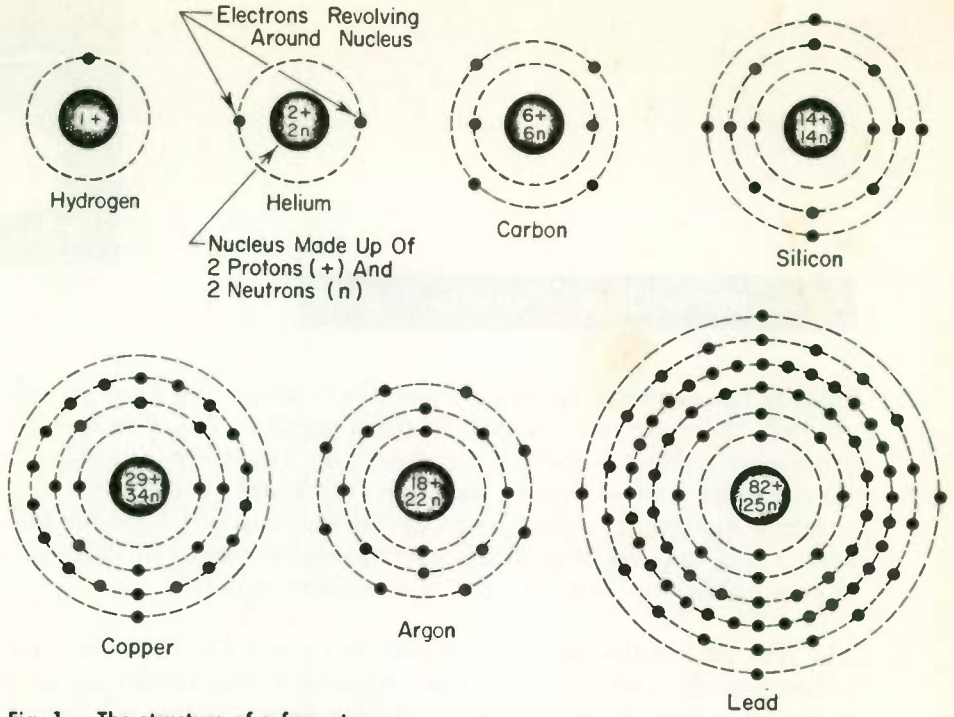

Fig. 1 The structure of a few atoms.
1 THE PARTS OF THE ATOM . . . The atoms of several different elements are shown in Fig. 1. Every atom has a relatively heavy core, called the nucleus, made up of protons and neutrons. Electrons revolve around the nucleus, like the planets around the sun.
Figure 1 shows that an atom of helium has (1) _____ protons, (2) _____ neutrons, and (3) _____ electrons. An atom of carbon has (4) _____ protons, (5) _____ neutrons, and (6) _____ electrons. An atom of copper has (7) _____ protons, (8) _____ neutrons, and (9) _____ electrons. An atom of hydrogen (the simplest atom) has (10) _____ protons, (11) _____ neutrons, and (12) _____ electrons.
(1) 2; (2) 2; (3) 2; (4) 6; (5) 6; (6) 6; (7) 29; (8) 34; (9) 29;
(10) 1; (11) 0; (12) 1;
2 CHARGED BODIES . . . A body that neither attracts nor repels another body is said to be neutrally charged (or uncharged). A body is neutrally charged when the number of protons in the body is ⁽²²⁾ _____ to the number of electrons. A body that has more protons than electrons is ⁽²³⁾ _____ charged, and a body that has more electrons than protons is ⁽²⁴⁾ _____ charged. The number of protons in the carbon atom of Fig. 1 is ⁽²⁵⁾ _____, and the number of electrons revolving around the nucleus is ⁽²⁶⁾ _____. Therefore the carbon atom is ⁽²⁷⁾ _____ charged. If the carbon atom were to lose one or more of its electrons, it would be ⁽²⁸⁾ _____ charged.
(13) negative; (14) attract; (15) repel; (16) negatively; (17) attract;
(18) 1,000,000; (19) one; (20) repel; (21) attract; (22) equal; (23) positively;
(24) negatively; (25) 6; (26) 6; (27) neutrally; (28) positively;
All the atoms shown in Fig. 1 have the same number of electrons as protons, and are therefore without a charge (neutrally charged). It is the normal condition for all atoms to have the same number of electrons as protons. Therefore all atoms are normally (29) _____ charged.
3 SOME PROPERTIES OF AN ATOM . . . Figure 1 shows that the revolving electrons exist in a number of orbits, called rings or shells. The electrons of the silicon atom are in three shells. The shell closest to the nucleus of a silicon atom holds (34) _____ electrons. The next one further out has (35) _____ electrons, and the outside orbit has (36) _____ electrons.
There is a maximum number of electrons that can exist in a shell. The number of electrons in the first, or K, shell (the one nearest the nucleus) cannot exceed two. The second, or L, shell can have a maximum of eight electrons, the third (M) shell a maximum of 18, and the fourth (N) shell a maximum of 32. However, the *outer shell can never have more than eight electrons*. Thus the N shell could not have over eight electrons unless the atom has another shell outside of the N shell, like the lead atom in Fig. 1.
4 VALENCE RING . . . The outer shell of the atom is of great importance in electronics, because of its ability in many atoms to release electrons or to take on additional electrons. There would be no electronic industry if it were not for this flexibility in the outer shell. Because of the importance of the outer orbit it has a special name: *the valence ring*. The electrons in the valence ring are called the *valence electrons*. Figure 1 shows that silicon has ⁽³⁷⁾ _____ valence electrons, and copper has ⁽³⁸⁾ _____.
The fewer the electrons in the valence ring the less these electrons are bound to the nucleus. In the copper atoms of Figs. 1 and 2 there is only one electron in the outer orbit (the N shell) and it is far removed from the nucleus. Consequently, it requires only the slightest force to dislodge this electron from its atom. In fact, the heat energy picked up by the electrons in the N shells of the atoms in a piece of copper at room temperature is sufficient to dislodge practically every outer orbit electron from its shell and send them wandering about as "free electrons", not attached to any atom. It is because of this great number of free electrons that copper is an excellent conductor.